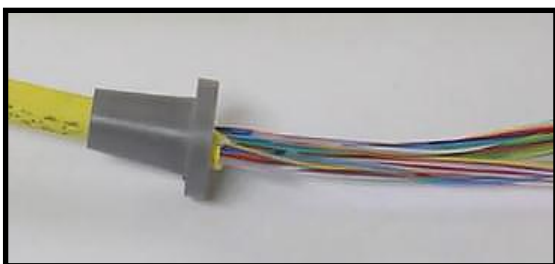

Figure 4
5.2.1 Move the Bushing towards the edge of the stripped PVDF jacket. The Bushing should be the division point between the exposed ribbons and the PVDF jacket to secure, align and protect the fibers entering the breakout unit assembly. **See Figure 4.**